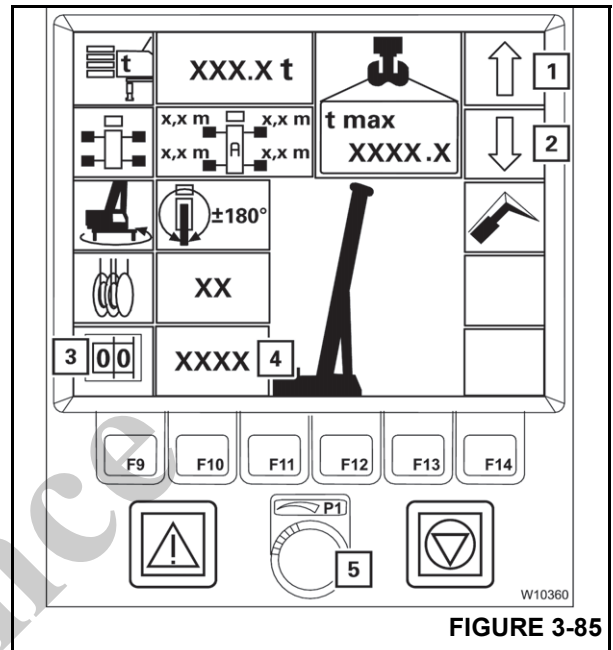

FIGURE 3-85
1. Press the button (3) (Figure 3-85) once, symbol green.
2. Press the button (1) or (2) repeatedly until the display (4) shows the required RCL code.